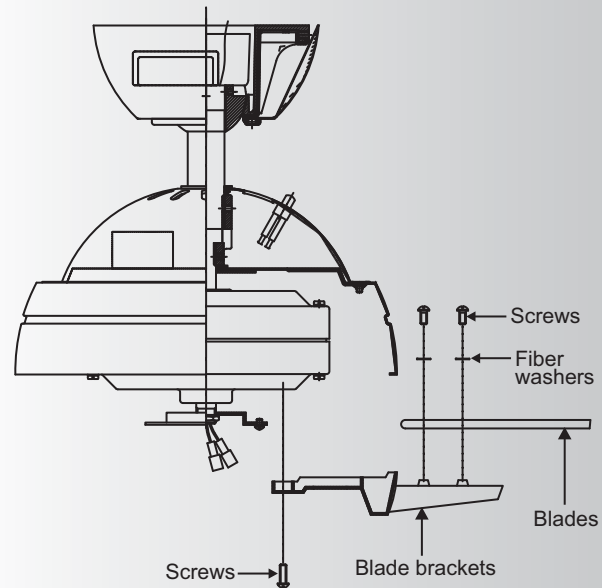

Fig. 17
Step 1. Attach a blade to a blade bracket using the screws and fiber washers provided. (Fig. 17)
Step 2. Attach each blade assembly to the motor using the "Pre-Installed" mounting screws in the blade bracket. (Fig 17)